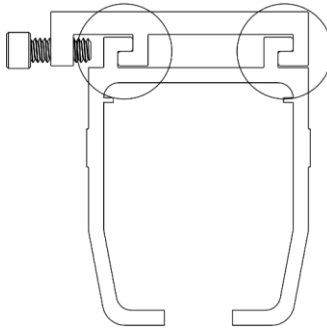

Figure 8: **Track alignment tabs, fully seated in bracket**
- Make sure the alignment tabs are fully seated, as shown in Figure 8.